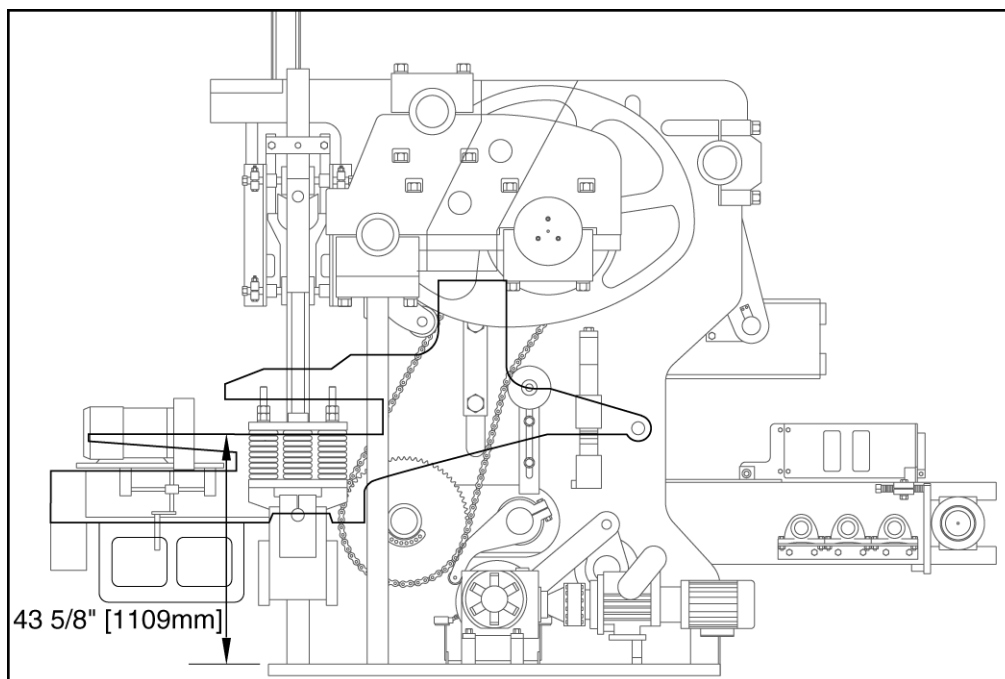

Figure 4.19 INNER FRAME ADJUSTMENT
- 4.2.3 Adjust the inner frame so that the mold throat is **43 5/8" [1109mm]** above the top on the base plate (figure 4.19).